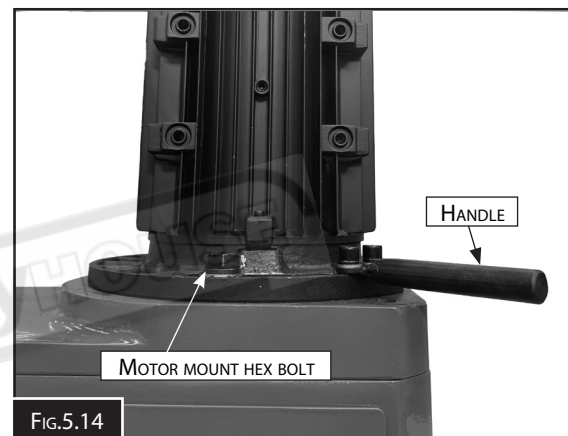

FIG. 5.14
4. Loosen the two motor mount hex bolts (one on each side of motor). (Fig.5.14)
5. Use motor handle to pull motor towards the front of machine and release V-belt tension. (Fig.5.14)